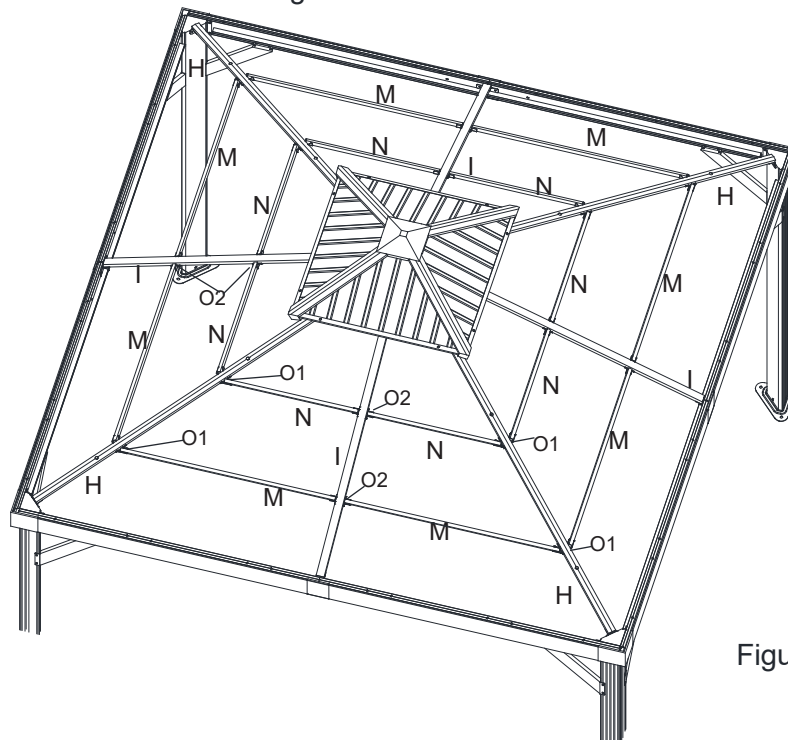

Figure 13-5
13.5: Repeat for all sides. Tighten all Bolts. See Figure 13-5.